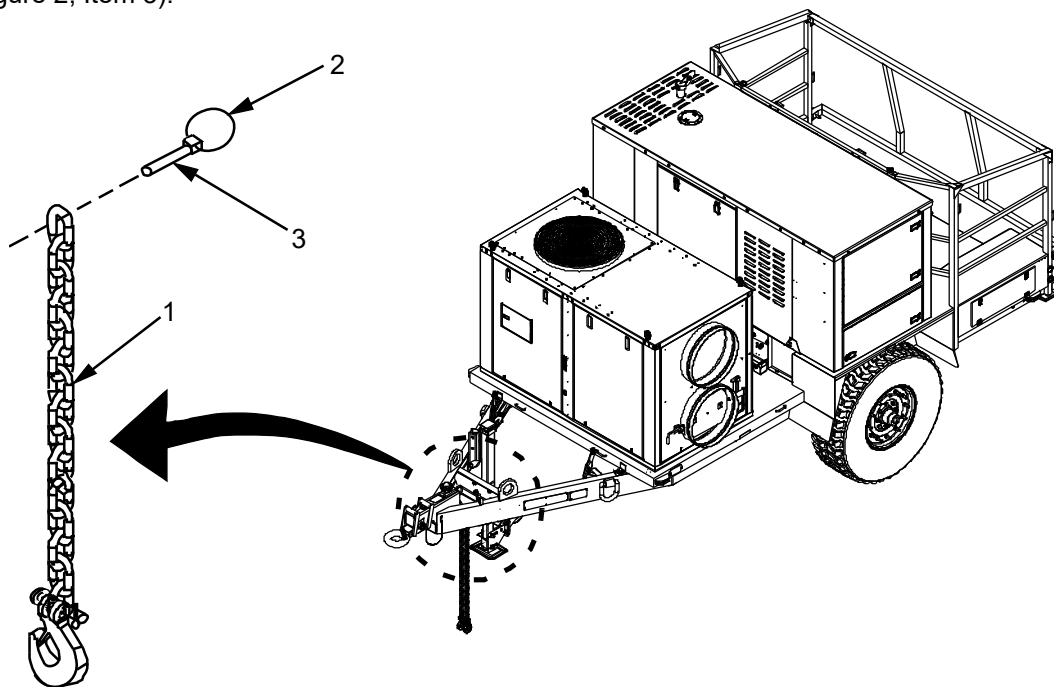

Figure 2. Safety Chain Removal/Replacement.
1. Identify safety chain (Figure 2, Item 1) requiring replacement.
2. Rotate locking ring (Figure 2, Item 2) and remove locking pin (Figure 2, Item 3).
3. Remove safety chain (Figure 2, Item 1) from slot in trailer frame.
1. Insert safety chain (Figure 2, Item 1) into slot in trailer frame.
2. Insert locking pin (Figure 2, Item 3) through safety chain (Figure 2, Item 1).
3. Secure safety chain (Figure 2, Item 1) by rotating locking ring (Figure 2, Item 2) over locking pin (Figure 2, Item 3).